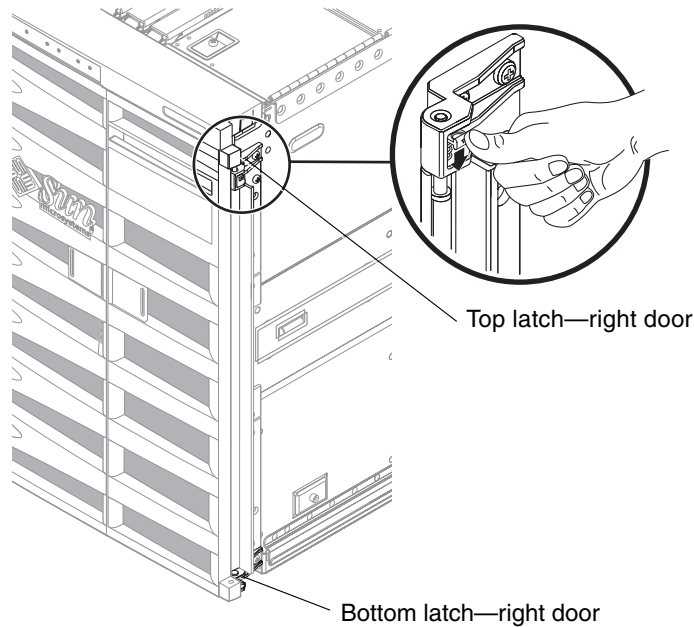

FIGURE 2-4 Releasing the Front Door Latches
1. While holding the left door with one hand, align the left door with the screw coming from the green latch at the bottom. Hold the green latch down in order to properly align the door with the screw (FIGURE 2-4).